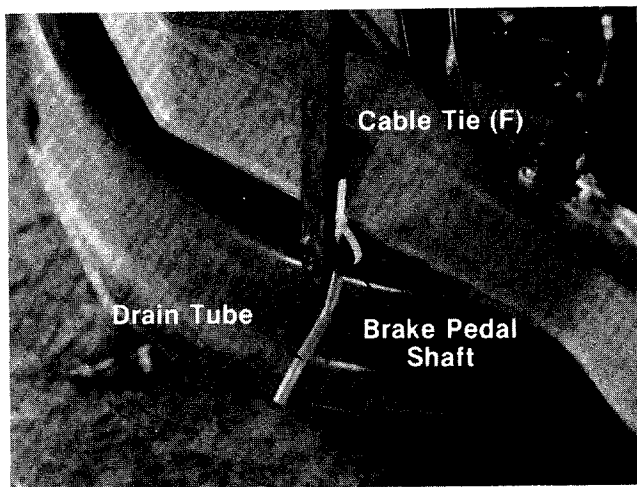

FIGURE 19.
12. Using cable tie (F), secure battery drain tube to the brake pedal shaft assembly. Cut off excess end. See figure 19.